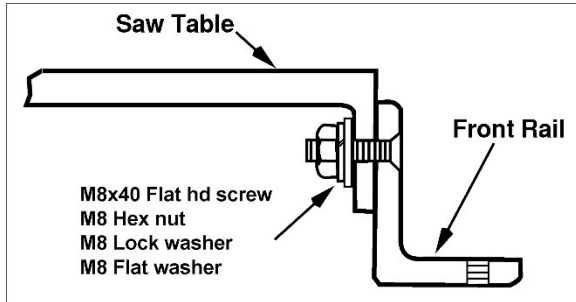

Figure 7-5
7. Lightly secure front rail to saw table with four M8x40 flat head screws with washers and hex nuts (Figure 7-5). *Finger-tighten only.*